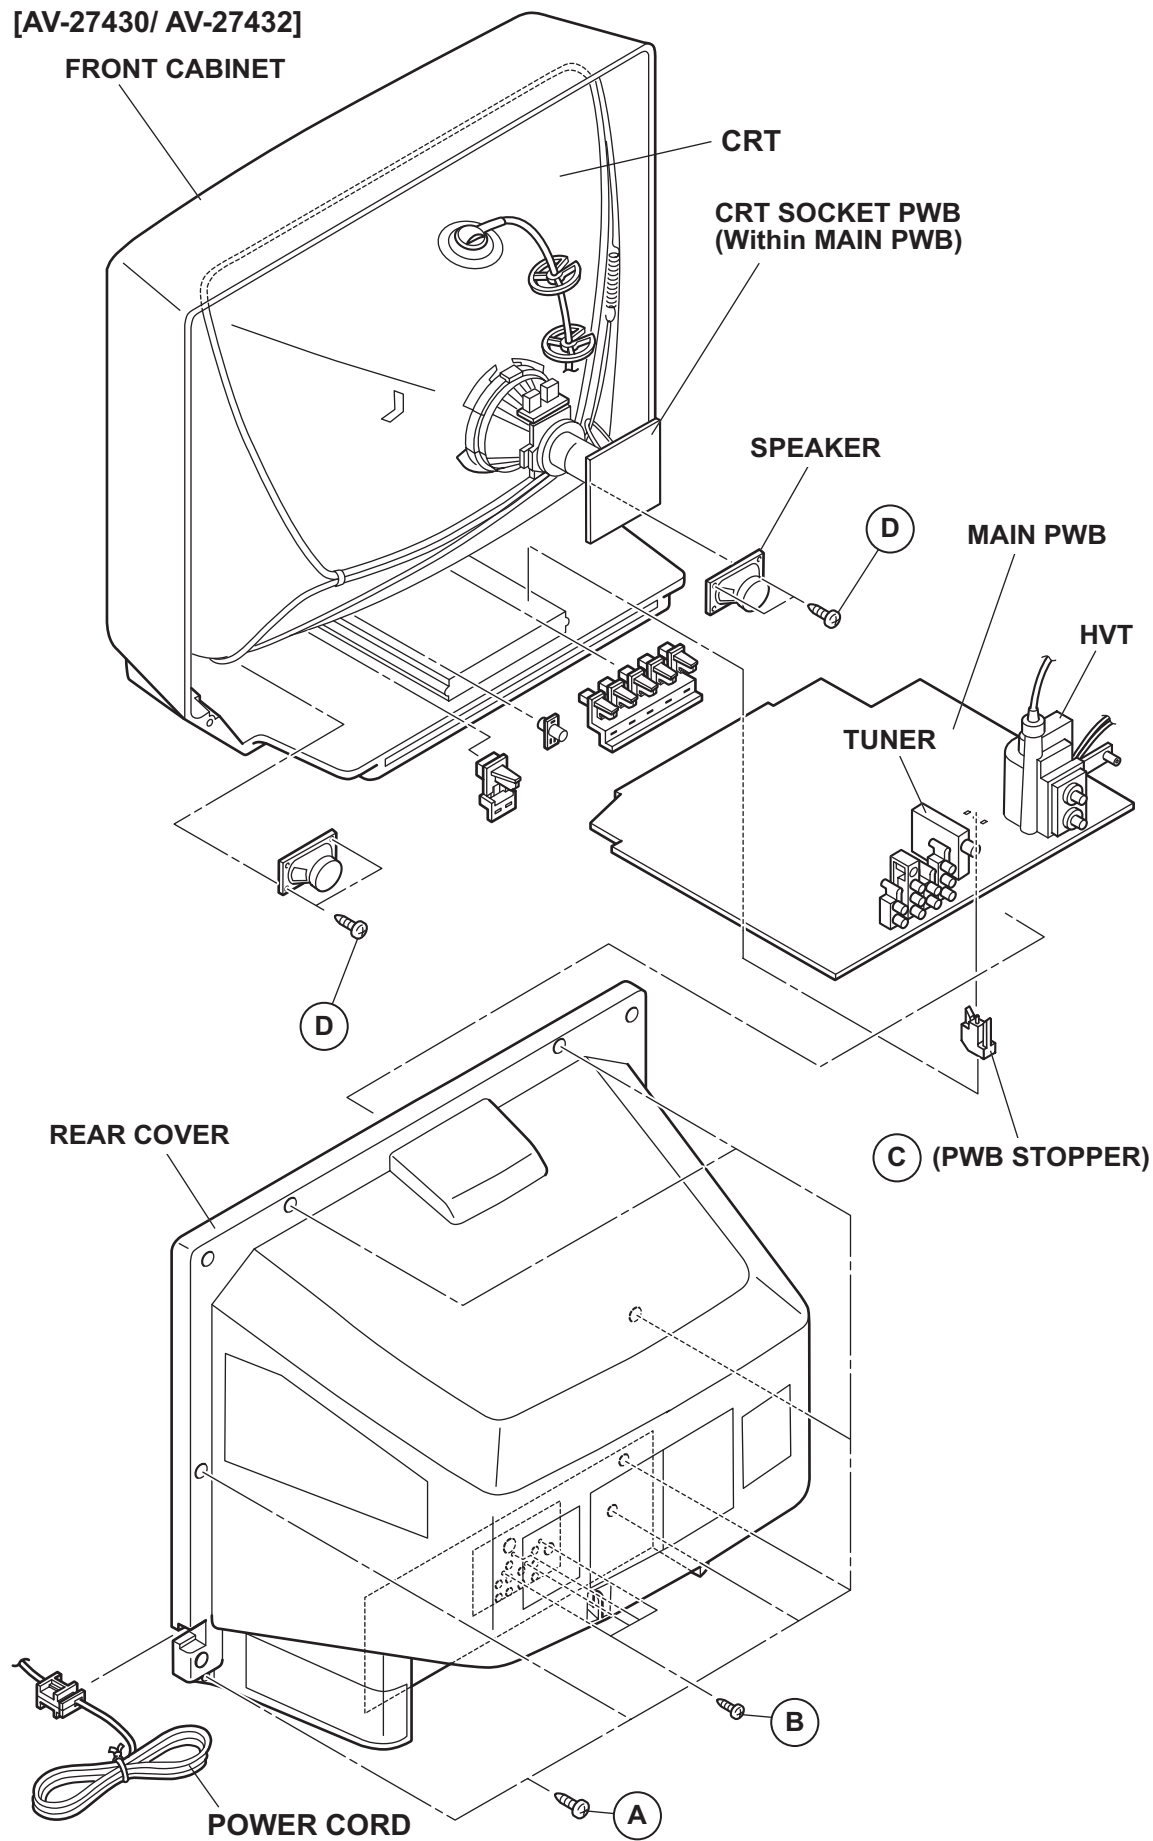

Fig.2
- (1) Unplug the power plug.
- (2) Remove the 7 screws [A] (Fig.2).
- (3) Remove the 4 screws [B] (Fig.2).
- (4) Then remove the REAR COVER toward you.
- (1) Remove the 2 screws [D], then remove the speaker (Fig.2).
- (2) Follow the same steps when remove the other hand speaker.